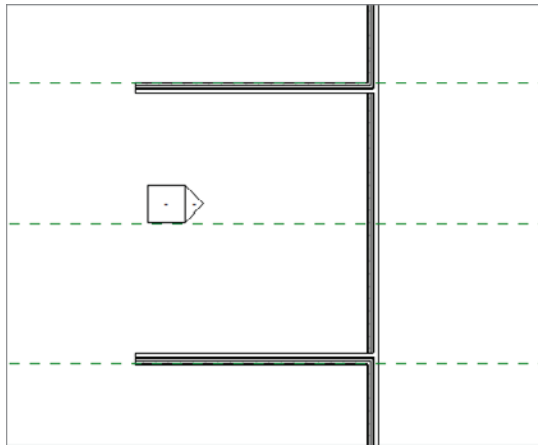

FIGURE 2.7 The two walls drawn here are 30'-0" (10000) from finish face to finish face.
9. Do the same for the other side. Your plan should now look like Figure 2.7.